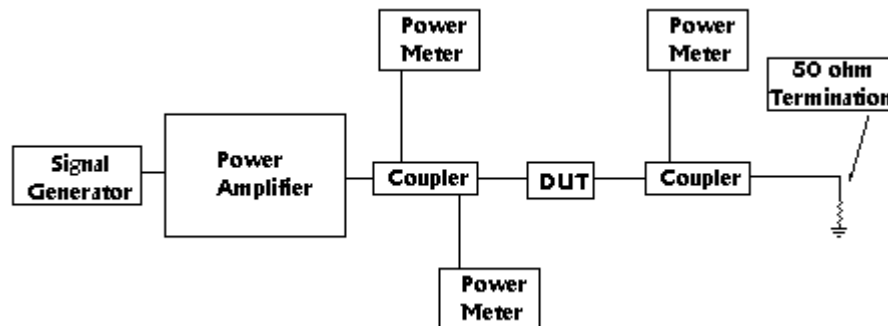

Figure 2 Power Test Schematic
- 5.2.2 The Power test set-up for paragraph 5.4.7 shall be configured as depicted in Figure 2.
The Multi-port Network Analyzer test set-up (Figure 2) shall be calibrated per the standard SOLT (Short, Open, Load, Through) calibration procedure. Insure that the correct calibration standards are used for the calibration
Assemble test set as shown in Figure 2. Adjust signal generator output to achieve the desired Fc signal at the input port of the DUT. The duration of the test shall be for a minimum of one (1) hour.
* Due to equipment power limitations, components such as attenuators, isolators and additional miscellaneous parts may be added to figure 2. However, in this event they shall be 50 Ω type of superior quality to insure accurate, repeatable results.